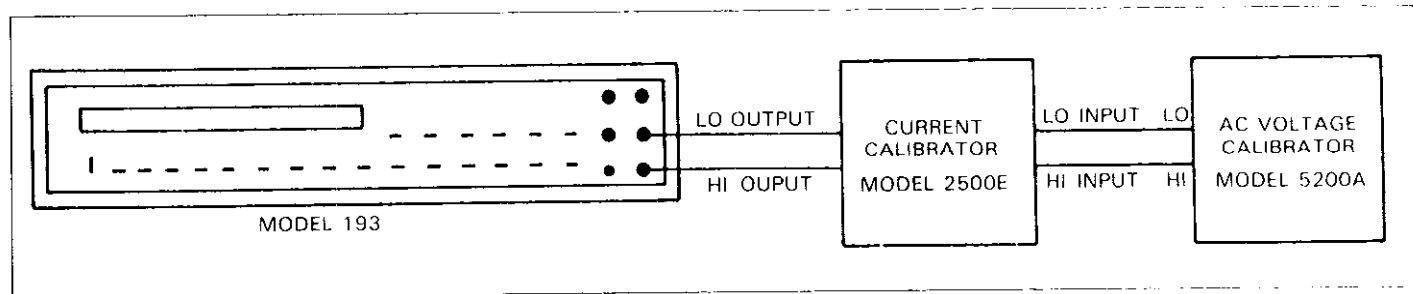

Figure 4-6. Connections for TRMS AC Current Verification
2. Connect the AC current calibration source to the Model 193 as shown in Figure 4-6.